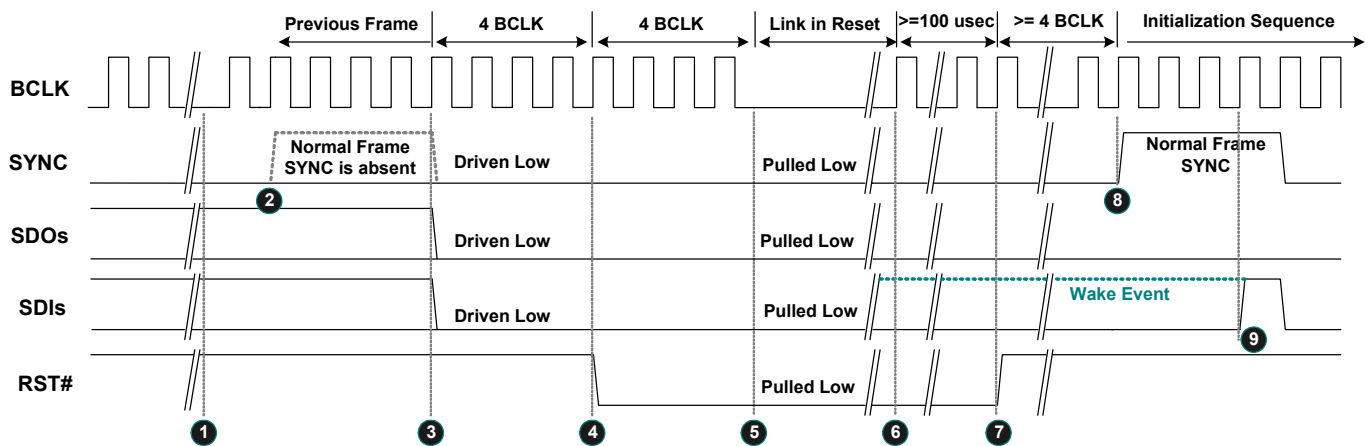

Figure 13. Link Reset Timing
- 3). Software initiates power management sequences. Figure 13, page 19, shows the 'Link Reset' timing including the 'Enter' sequence (❶~❺) and 'Exit' sequence (❻~❾)